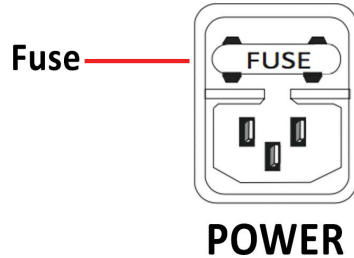

Figure 53: Analyzer Fused Inlet
2. On the back panel of the analyzer, locate the fuse above the power inlet. (Figure 53)